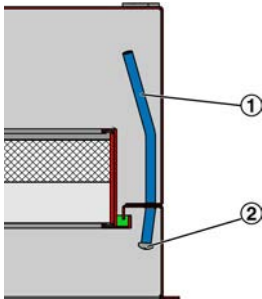

Fig. 7: Measuring tube
**Temporary measurement:** Temporary differential pressure measurement with a mobile measurement device connected to the internal measuring tube (Fig. 7/2). For this measurement you have to remove the diffuser face, ☞ 8.
- Plus (+) - to the internal measuring tube (Fig. 7/2)